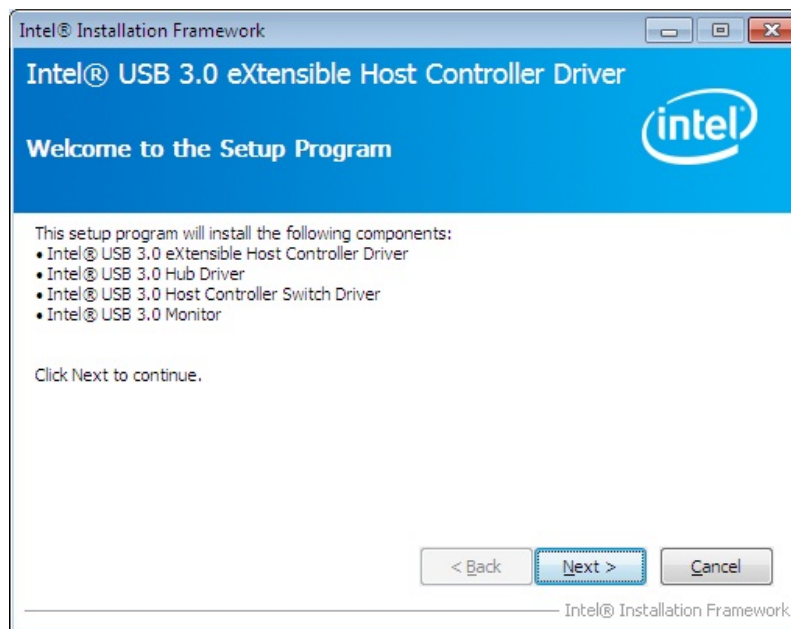

Figure 6-22: USB 3.0 Driver Welcome Screen
Step 4: The **Welcome Screen** in **Figure 6-22** appears.